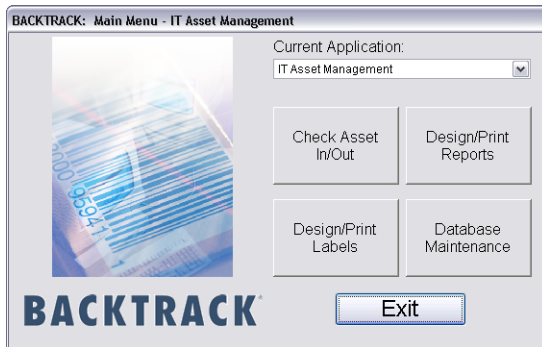

Figure 1-1 Main Menu
- 3 To get started in BACKTRACK, click on the appropriate Main Menu button to access one of its four "modules" (Figure 1.1). These modules allow you to access all program functions.